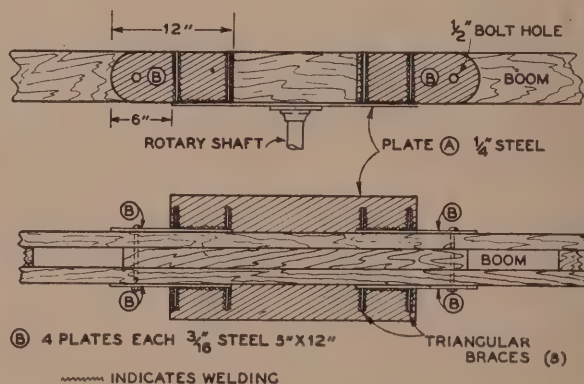

Figure 3.
Although the particular rotating head, bearings, etc., used with this boom are of no great interest, it is advisable to use a mounting plate similar to that shown in figure 3. A photograph of this mounting plate is shown in figure 4. The plate (A) is of $\frac{1}{4}$ -inch thick steel and is 12 inches wide and 24 inches long. The center of this plate was drilled to match holes in the rotating plate on the mast. The four upright pieces (B) were next set up on the main plate (A) and welded to this plate so that the space between the uprights (B) was just large enough to allow the boom to lie between them. One-eighth